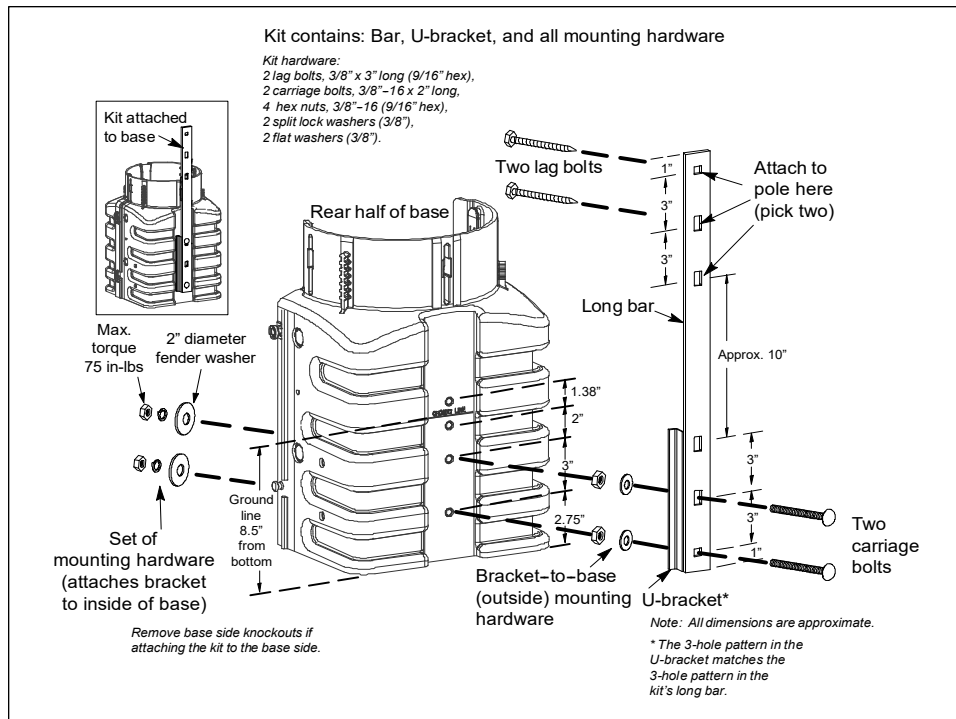

Figure 2 Installing the Pole Mount Bracket Kit
2	Attach bracket. Refer to Figure 2. The pole mount U-bracket can be removed and adjusted to fit other than factory removed knockouts. If the factory knockouts are to be used, no adjustment is required. (1) Remove and set aside the lag bolts (used for pole attachment) that are factory-attached to the kit's long bar. (2) Remove the outermost first set of nuts and washers from the carriage bolts that are factory preinstalled in two of the kit's lowest holes. (3) [Optional] Adjust the U-bracket positioning on the bar and the carriage bolt locations. The kit is shipped with the U-bracket aligned with and attached to the bottom of the bar. If different holes (or bolt positions) are chosen to adjust the kit's vertical mounted position on the base or pole, remove the carriage bolts and re-attach them in the correct holes. Note that the U-bracket can be raised or lowered on the bar approximately 3", for the specific pole/post installation in question. Once repositioned, reconnect the U-bracket to the bar. First, abut the wide, flat, edge of the U-bracket against the bar. Next, insert the carriage bolts through the correct bar holes and then through the correct U-bracket holes. Secure by placing a flat washer then a lock washer onto each bolt, then thread a nut all the way onto each bolt and firmly tighten each nut.